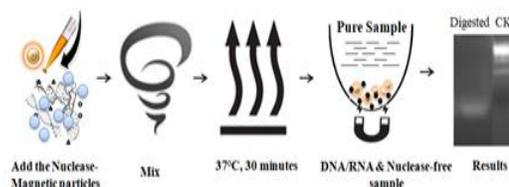

Fig.16 Workflow of DNA & RNA Removal
- Efficient one-tube and extraction-free protocol (Fig.16).
Workflow (Fig.16)